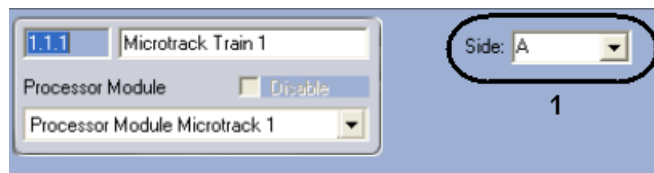

Fig. 3.4—2. Configuring a Microtrack train
2. In the **Side** drop-down menu, select the ID of a Microtrack cable (see Fig. 3.4—2, 1).